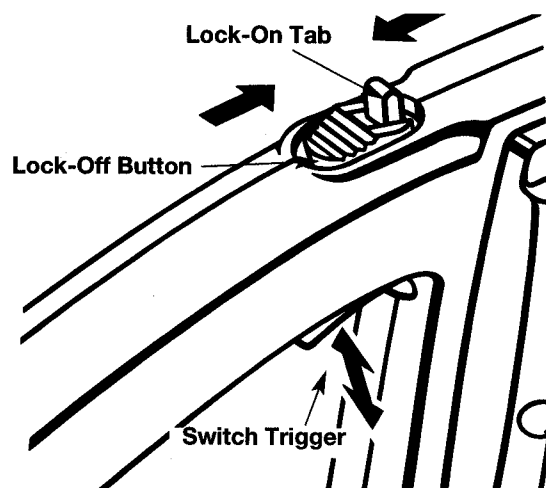

Fig. 4
1. Slide the lock-off button forward (Fig. 4).